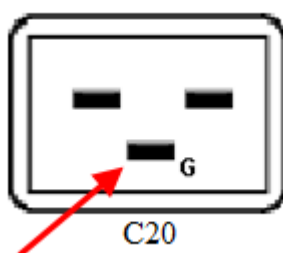

Figure 97 The ground conductor on the rear panel AC power connector
- b The primary earth ground conductor on the rear panel AC power connector as shown in Figure 97.